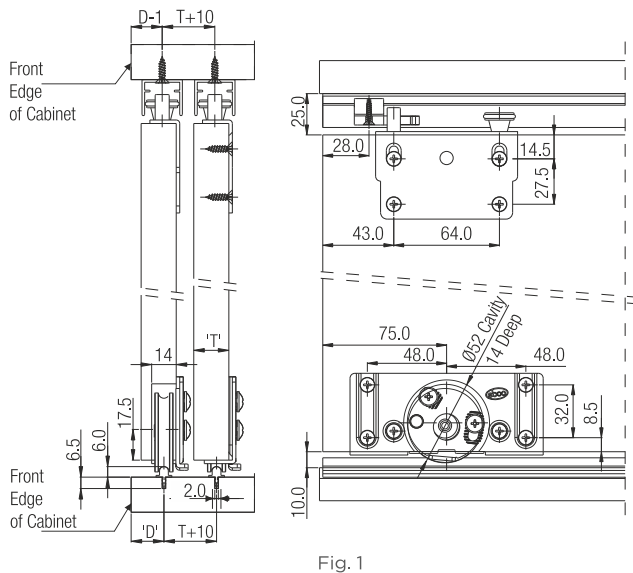
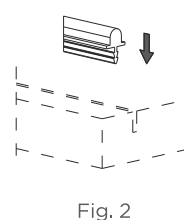
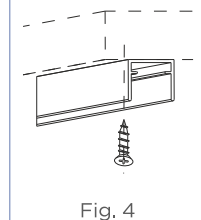

Fig. 1
Fig. 2
Fig. 4
1. Cut a Slot of 2mm wide & 6.5mm deep on bottom of Cabinet, & Insert the Dome track into the slot as shown in Fig. 2 for dimensions refer Fig.1.
3. Fix top track onto the top inner face of the cabinet as shown in Fig. 4, for dimensions refer Fig.1.
5. Fit the Top guide onto the top side of the shutter as shown in Fig 1.